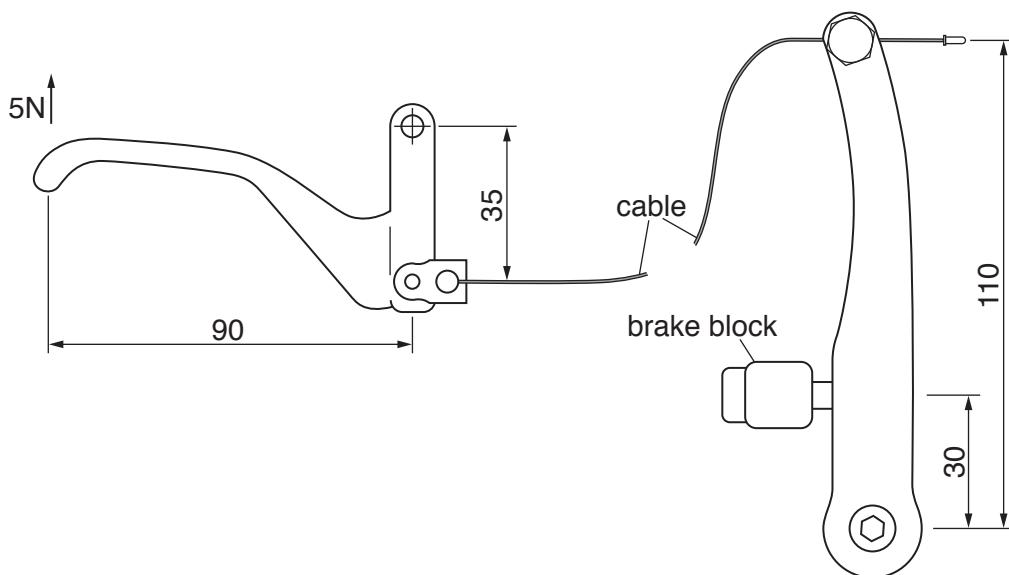

Fig. 9
- (iv) Fig. 9 shows the dimensions of the brake lever and part of the mechanism.